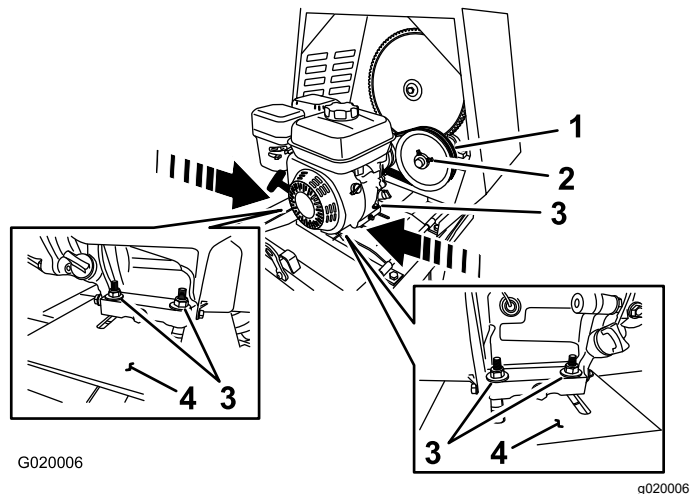

Figure 65
- B. Loosen the nuts and bolts that secure the engine to the engine deck (Figure 65).
- **Increase the air gap**—move the engine **away** from the idler pulley (Figure 65).
- **Decrease the air gap**—move the engine **toward** the idler pulley (Figure 65).